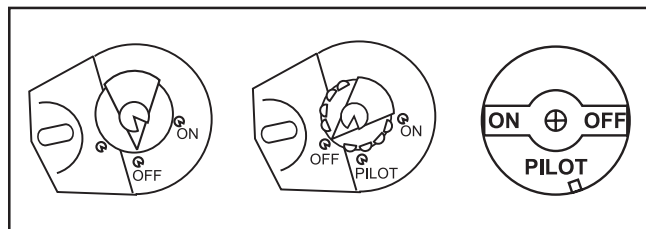

Figure 11. Gas Valves.
- c. Different models of the JV boiler utilize various gas valves. Although the gas valves may have different control knobs, they are all similar in operation. The JVS gas valve has a two-position knob, ON and OFF. The JVT valve has a three-position knob, ON, OFF and PILOT, some models come with extra push-button (see Figure 11).